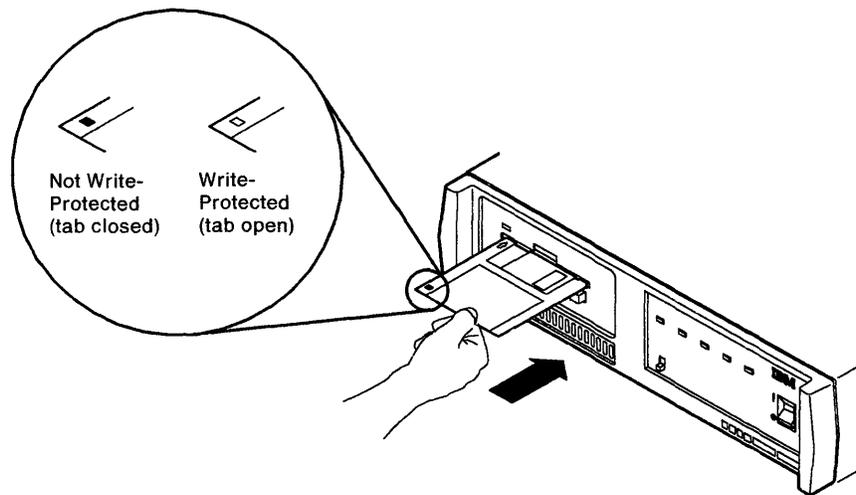

Figure 3-3. Write-Protect Switch
6. Make sure that the new system diskette is not write-protected. See Figure 3-3.
4. Make sure the system diskette is not write-protected. See Figure 3-3 on page 3-5. Place the system diskette in the diskette drive.